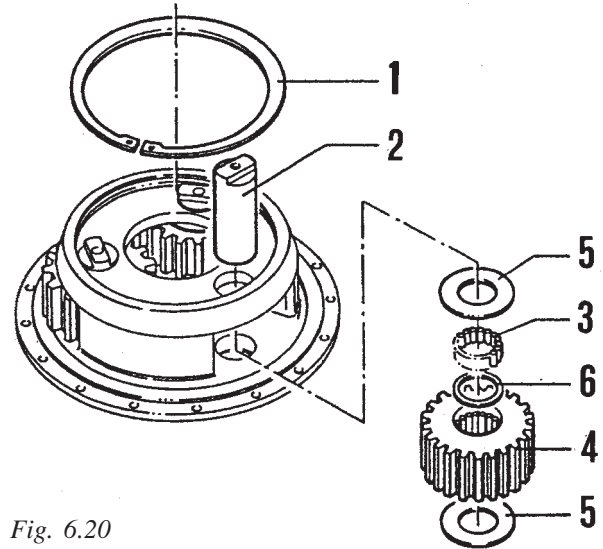

Fig. 6.20
- Check that the three planet gears pos.4 fig.6.20 are perfectly clean. Spread their central holes with a film of hard grease. Use grease type FINA MARSON EPL 3, NLGI:3 degree.
- Position the needles pos.3 inside the gears pos.4 so that it's fully filled, placing a spacer ring pos.6 between each row of needles.
- Position the two external thrust washers pos.5 and insert the planet gear into the spider, carefully centering the plug hole. For this purpose use tool OMCI No.2 of chapter 7.
- Having perfectly centered the planet gear, remove the centering tool and mount pin shaft pos.2, taking care to position it so that the milling points towards the circlip pos.1.
- Having correctly installed the three planet gears and relative pins, position the circlip pos.1 and check if it's correctly installed.